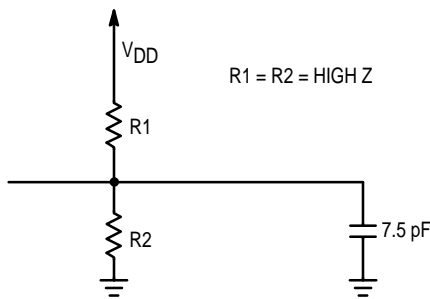

Figure 5. Input Model for $V_{SS} \leq V_{in} \leq V_{DD}$
1. The recommended power supply voltage should be observed. For battery backup systems such as the one in Figure 5, the battery voltage must be at least 3.7 Volts (3 Volts from the minimum power supply voltage and 0.7 Volts to account for the voltage drop across the series diode).